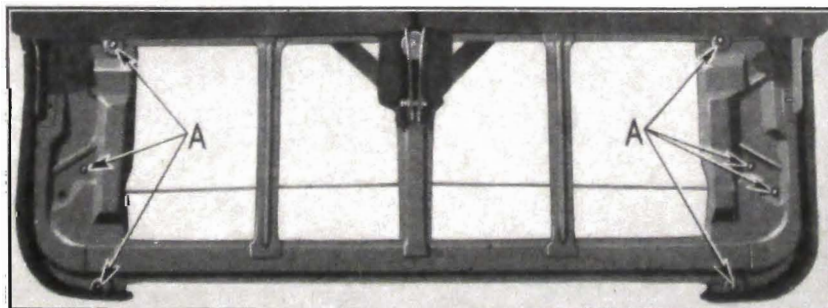
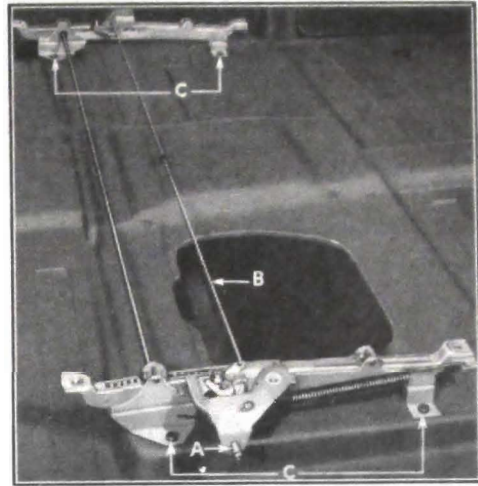

Fig. 1-50. Attachment of Front Seat Adjuster to Underside of Seat
Fig. 1-49. Front Seat Adjuster
- The seat adjuster for all 1942 styles is of the sliding channel type, the same as used in 1941. See Figs. 1-49, 1-50. This adjuster has a double locking feature which eliminates "chuck" on the passenger side. The seat adjuster attaches to the floor pan and seat bottom frame with screws "C", Figs. 1-49, "A", Fig. 1-50. The control rod "A", Fig. 1-49, extends through the seat skirt and is operated by a handle which assembles to the end of the rod. A connecting rod "B" running from the left to the right hand side actuates the locking control.